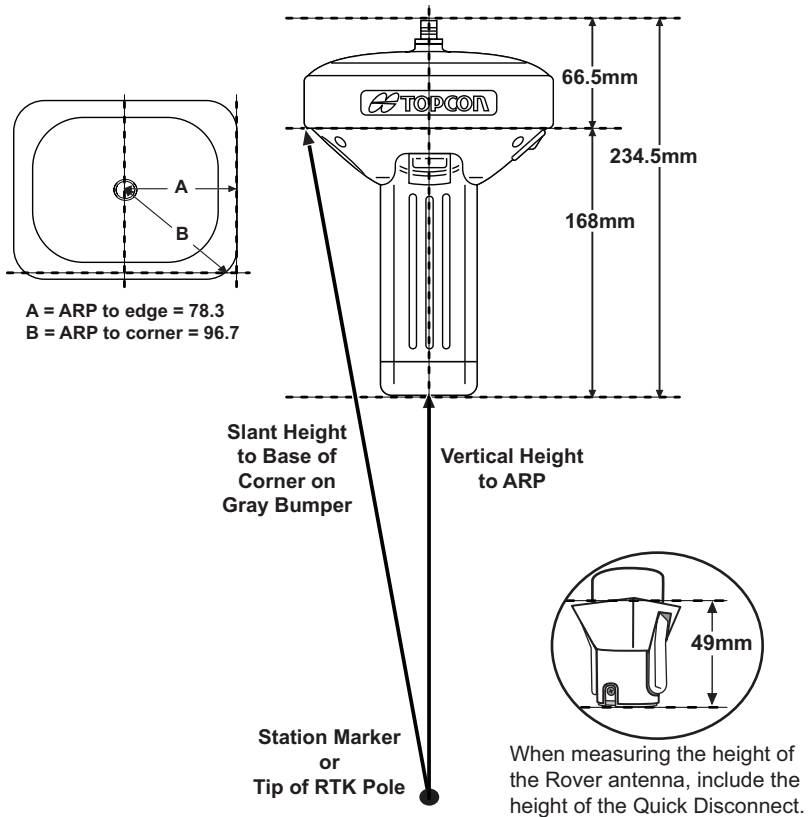

Figure 4-3. Antenna Offset Measurements
1. Measure the antenna height above the control point or marker, either the slant height or the vertical height (Figure 4-3).